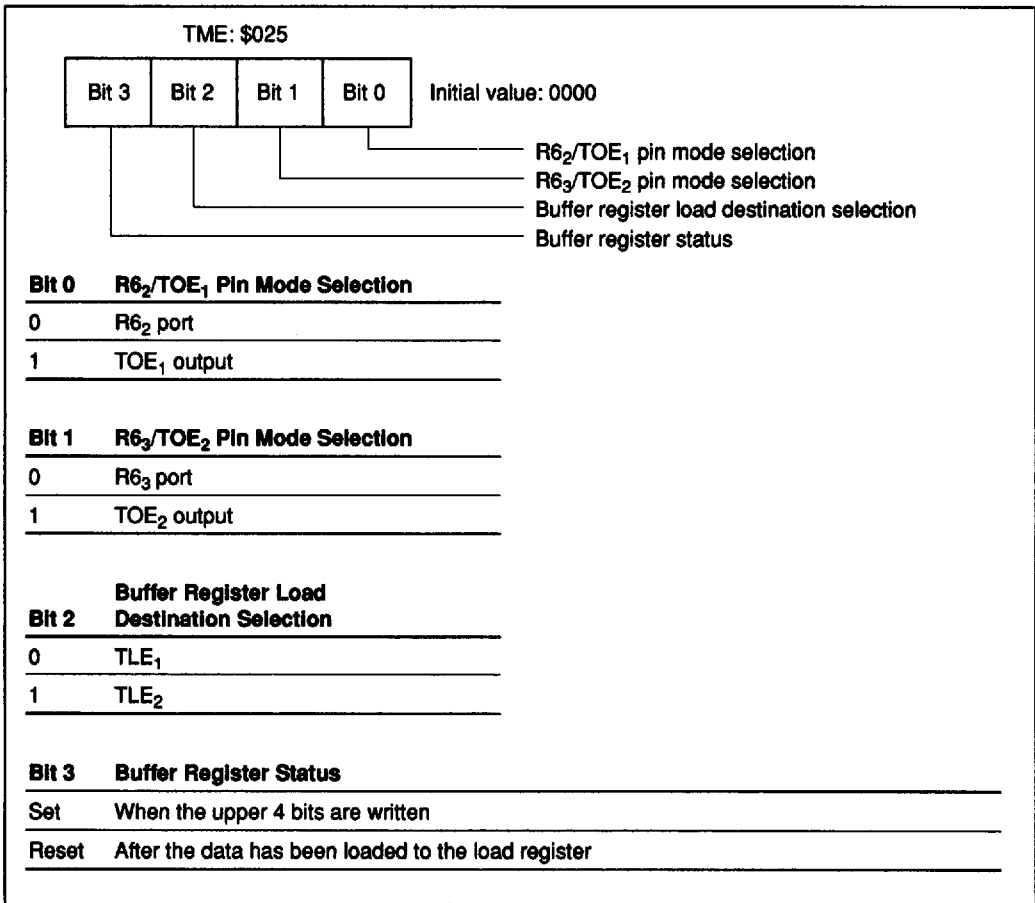

Figure 35 Timer Mode Register E
**Timer Mode Register E (TME: \$025):** Four-bit register including three write-only bits and one read-only bit which selects the port and the load register and indicates the buffer register status (figure 35).